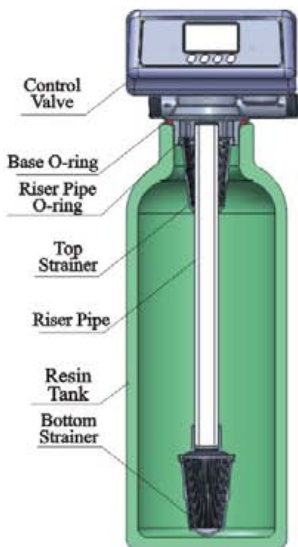

Figure 1-1
a. As the Figure 1-1 shows, select the relevant riser pipe, glue the riser pipe to the bottom strainer and put it into the mineral tank, cut off the exceeding tube out of tank top opening. Plug the riser tube in case of mineral entering.